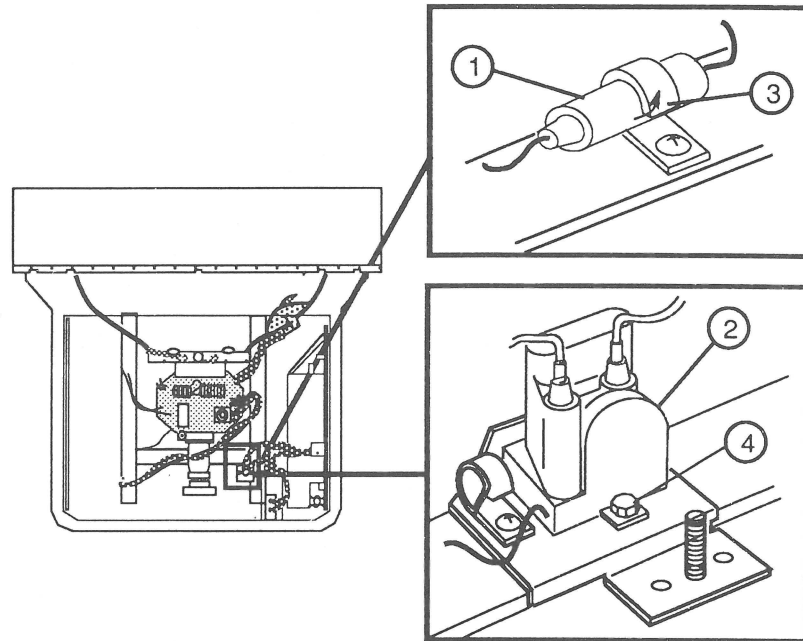

FIGURE 17
7. Locate the bleeder resistor on the floor of the monitor. The resistor is either a long, round, cigar-shaped resistor (Figure 17, #1) or a tall, box-shaped resistor (Figure 17, #2).
8. If the resistor is cigar shaped, slide the resistor sideways and pull up slightly on the plastic clip (Figure 17, #3) to free the resistor.
If the resistor is box shaped, use a nutdriver to remove the screw (Figure 17, #4) that holds the resistor in place. Then slide the resistor forward to release it from the metal bracket.